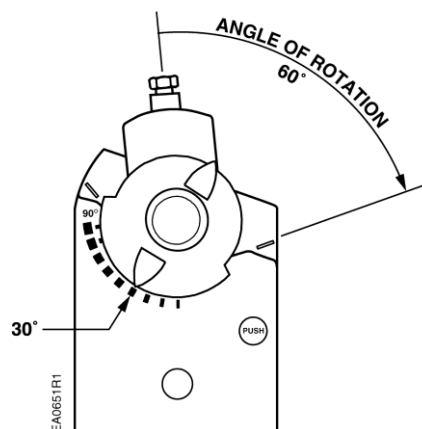

Figure 26. Mechanical Range Adjustment.
5. Remove the shaft adapter and insert it with the position indicator pointing to mark on the scale calculated in the previous step. See Figure 26.